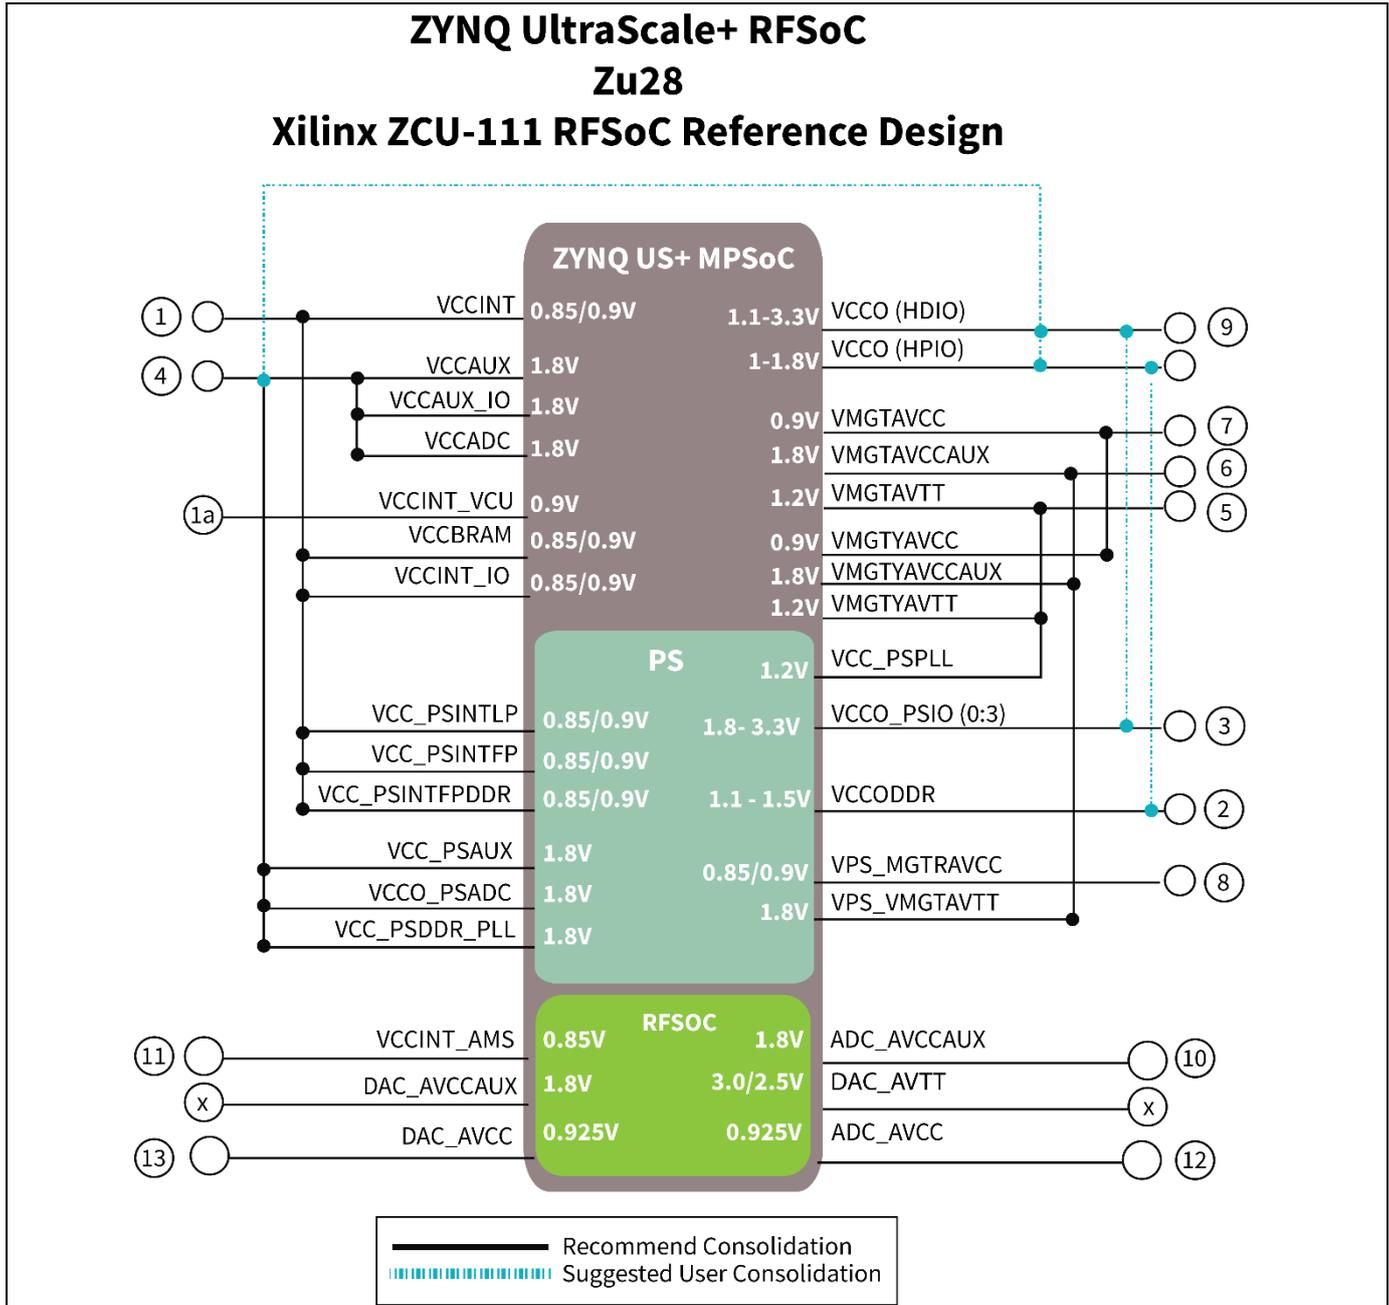
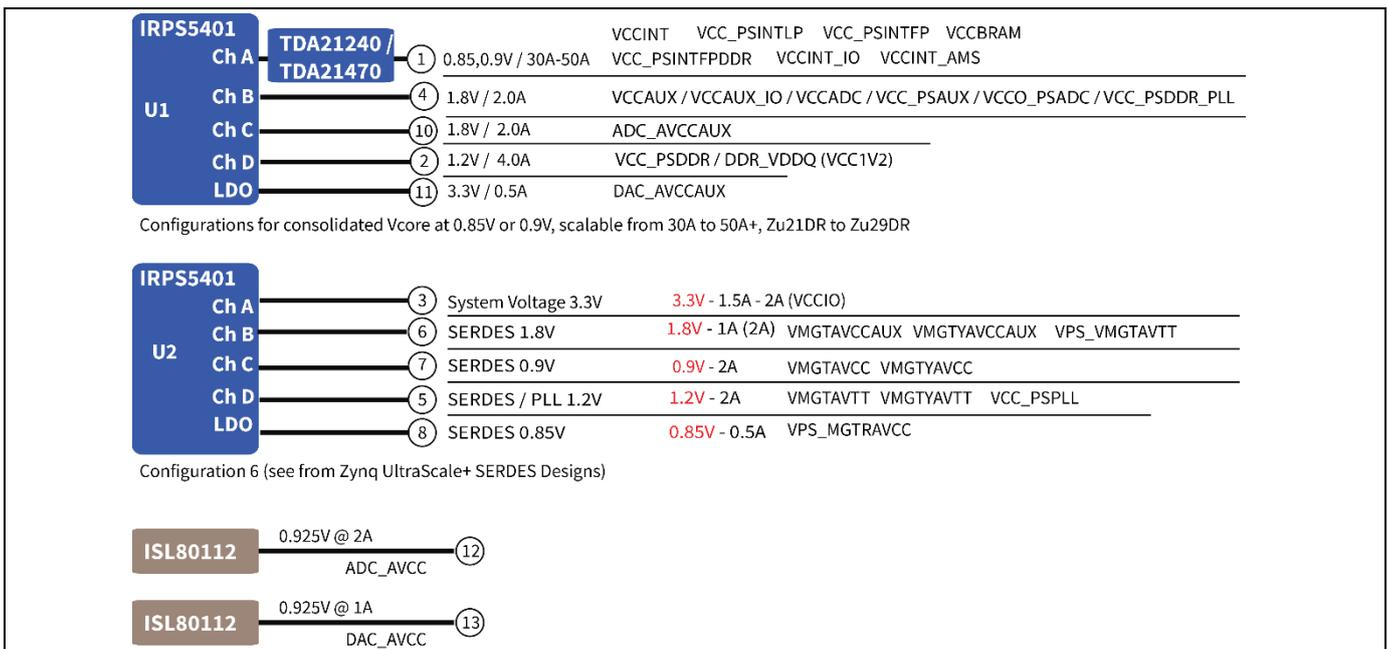

Figure 1 Overview of the typical rails in a Xilinx Zynq US RFSoc
Figure 2 Space-optimized power solution for Zynq RFSoc, Zu21DR to Zu29DR
The size of the FPGA varies with the scope of the application. Bigger applications require more horsepower, thus requiring larger FPGAs. Figure 1 shows the typical architecture of a Xilinx Zynq US FPGA. A Zynq is typically divided into the Programmable Logic (PL), processing domain (PS) and RFSoc. A typical Xilinx FPGA PL domain can operate at 0.72 V, 0.85 V and 0.9 V. Video codec core voltage on the Zynq UltraScale+ Zu04/Zu05/Zu07 “EV series” requires an extra 0.9 V supply.
Figure 1 illustrates the power needs for a typical Zynq US FPGA. Different applications have varying power requirements on each rail. Figure 2 represents a space-optimized power solution. In the proposed solution below, various rails are consolidated. The IRPS5401 PMIC at U1 with an external power stage in switcher A will power the VCCINT, VCC\_PSINTLP, VCC\_PSINTFP, VCCBRAM, VCC\_PSINTFPDDR, VCCINT\_IO and VCCINT\_AMS rails. So the core voltage could be either 0.85 V or 0.90 V. In most such applications, the current for this rail ranges from 30 to 50 A, thus either the TDA21240  $\mu$ DrMOS power stage (rated at 40 A) or the TDA21470 power stage (rated at 70 A) can be used. Without the external power stage, switcher A of the IRPS5401 PMIC can support up to 2 A. None of the other rails can support an external power stage. So switcher B can support up to 2 A, while switchers C and D can supply up to 4 A each. You also have the option to combine switcher outputs C and D to deliver up to 8 A.